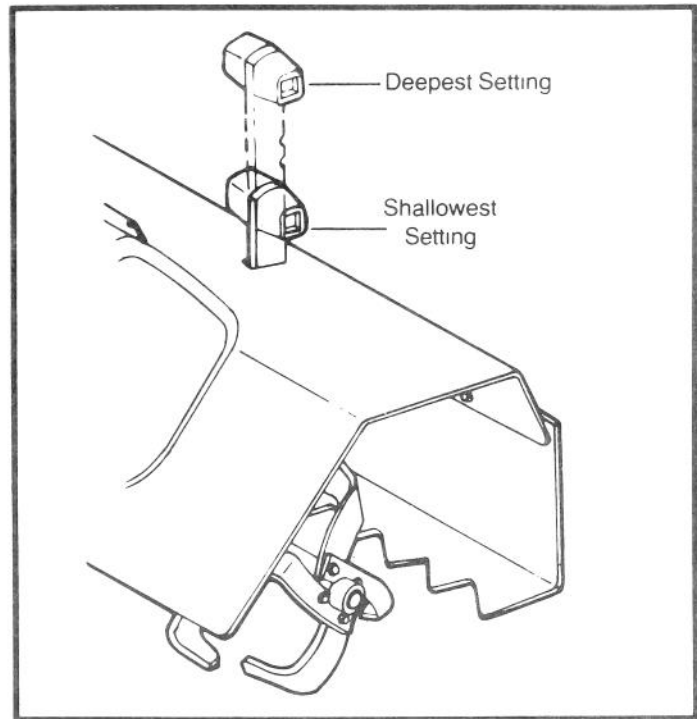
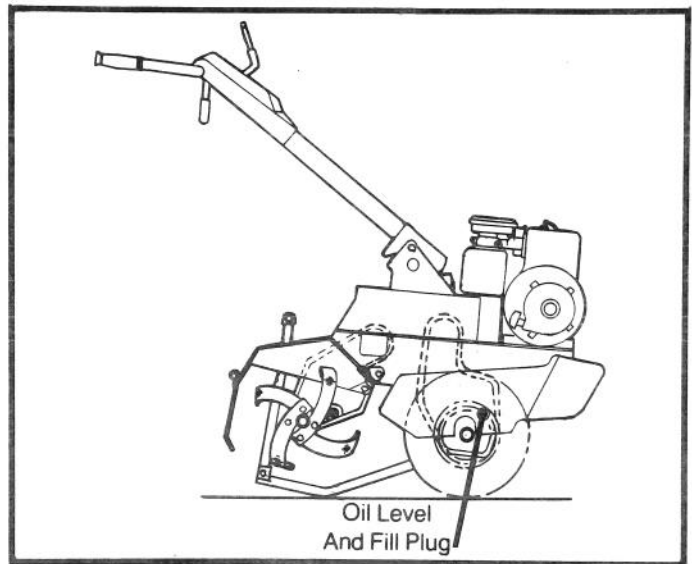

FIGURE 3
FIGURE 10
The depth control lever, Fig. 3, is the "key" to easy tilling operation. The exact setting of control will vary with soil conditions. **To Operate:** Push lever forward then lift or lower to desired position.
When starting a tilling operation, start with the depth control lever in the shallowest setting (Fig. 3). As you become acquainted with the soil, keep raising the control lever so that deeper tilling can be done.
To check the oil level of the wheel drive case, place the depth control lever down to the shallowest setting (Fig. 3). Remove the inspection plug on the right side of the wheel drive case (Fig. 10). Case has sufficient oil if oil is up to bottom of inspection plug hole. It may be more convenient to remove the right wheel when checking this level.
1. Set depth control at the deepest setting (Fig. 3).